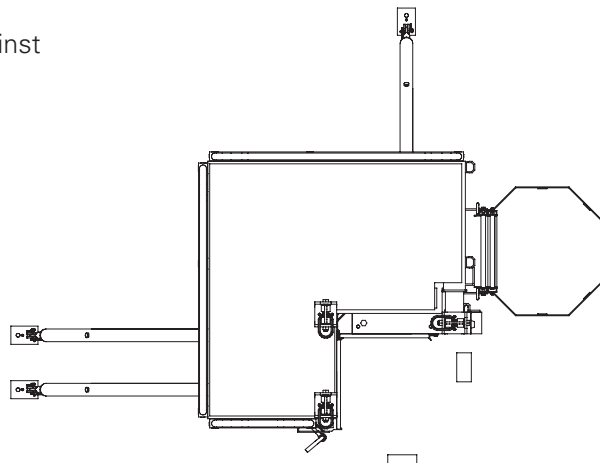

Fig. 17
2. Position formwork halves against locating boards. Fig.17